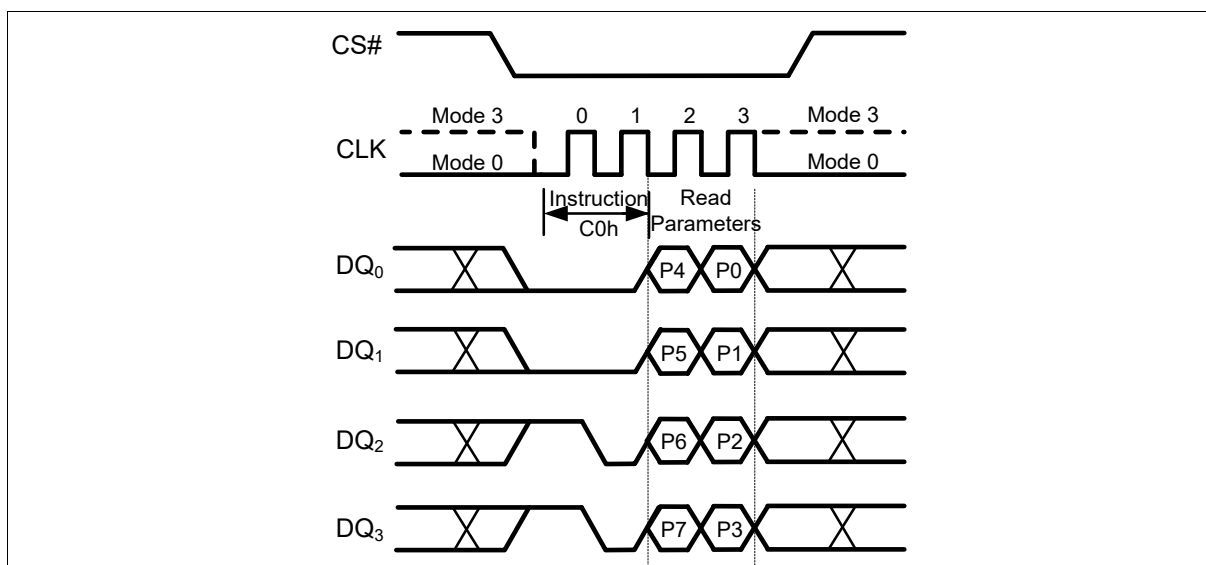

Figure 63 Set Read Parameters Instruction (QPI Mode only)
The Erase Security Sector instruction sequence is shown in Figure 63. The CS# pin must be driven high after the eighth bit of the last byte has been latched. If this is not done the instruction will not be executed. After CS# is driven high, the self-timed Erase Security Sector operation will commence for a time duration of t_{SE} (See "11.6_AC Electrical Characteristics"). While the Erase Security Sector cycle is in progress, the Read Status Register instruction may still be accessed for checking the status of the WIP bit. The WIP bit is a 1 during the erase cycle and becomes a 0 when the cycle is finished and the device is ready to accept other instructions again. After the Erase Security Sector cycle has finished the Write Enable Latch (WEL) bit in the Status Register is cleared to 0. The Security Sector Lock Bit (LB) in the Status Register-2 can be used to OTP protect the Security Sector. Once a lock bit is set to 1, the Security Sector will be permanently locked and Erase Security Sector instruction will be ignored.